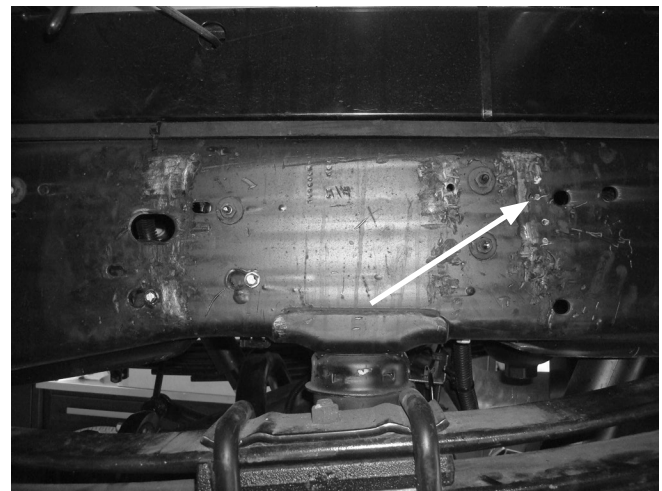

Fig. 15
- With the upper bracket in position, mark one hole location and remove the assemblies from the leaf springs. Center punch the mark and drill a 7/16" hole through the frame on both sides (Fig. 15).